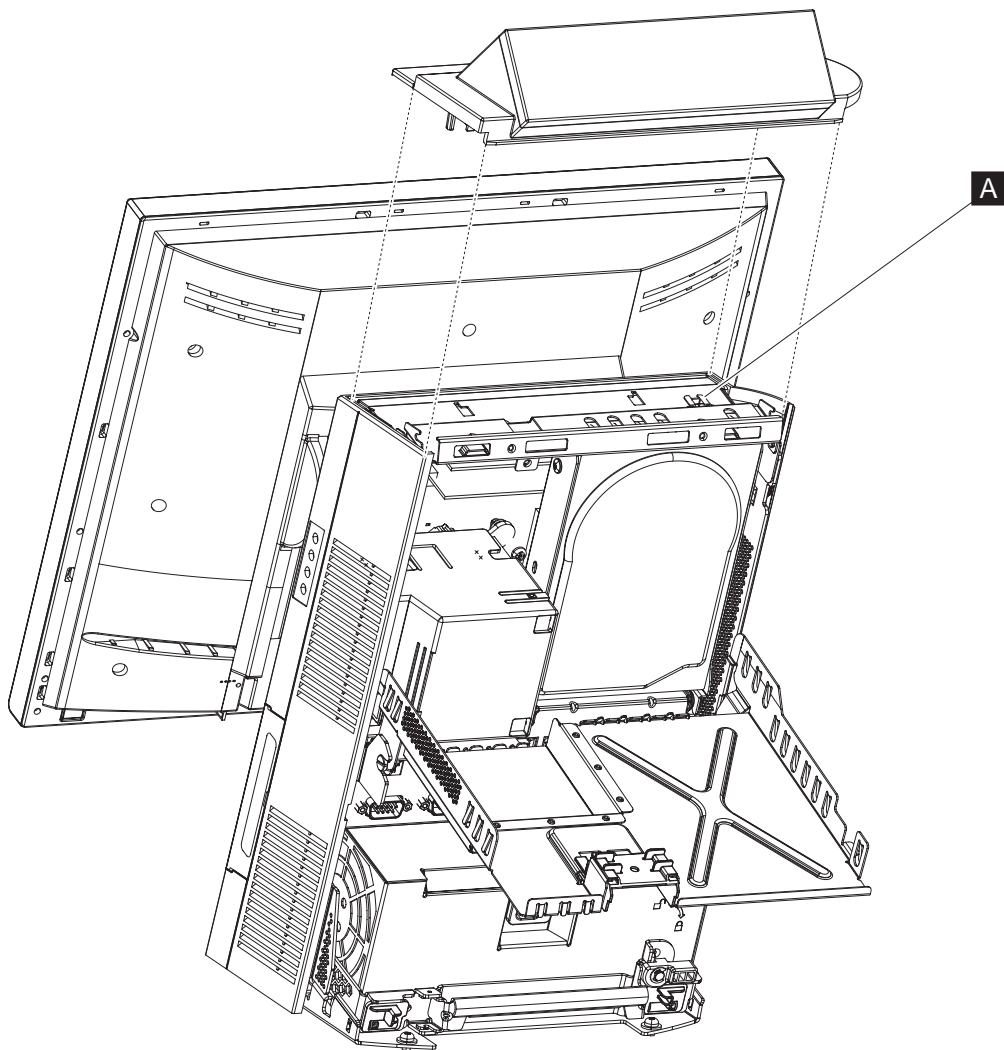

Figure 43. Removing the integrated display
7. Route the cable through the hole in the top of the unit **A** in Figure 43.